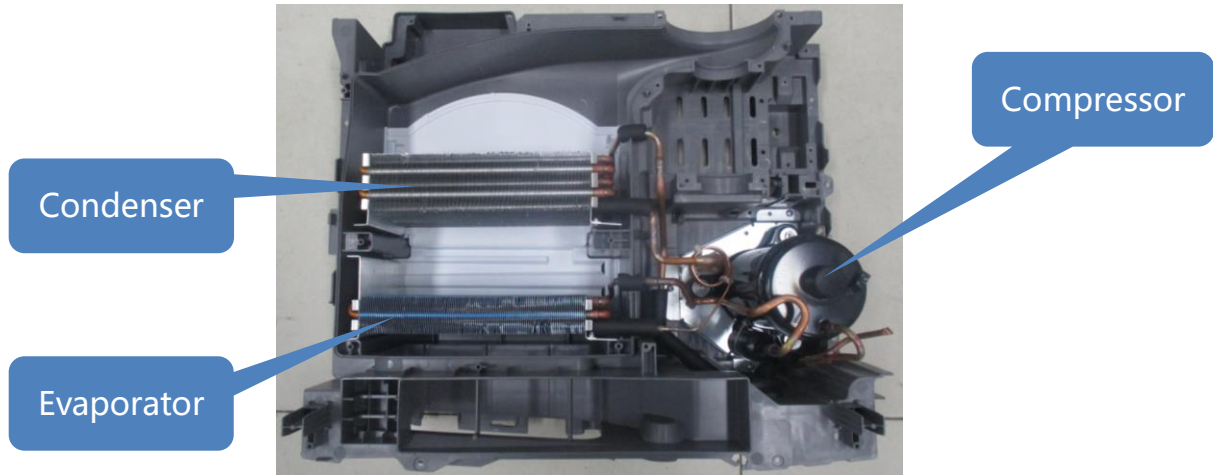

Fig.16
- ① Check if there are any oil leaks in the condenser, evaporator, and pipes. If there are, it is a refrigerant leak and needs to be repaired. (Fig.16)
- ② Check if there are difference between condenser and evaporator, If there are not, it is a refrigerant leak and needs to be repaired. (Fig.16)